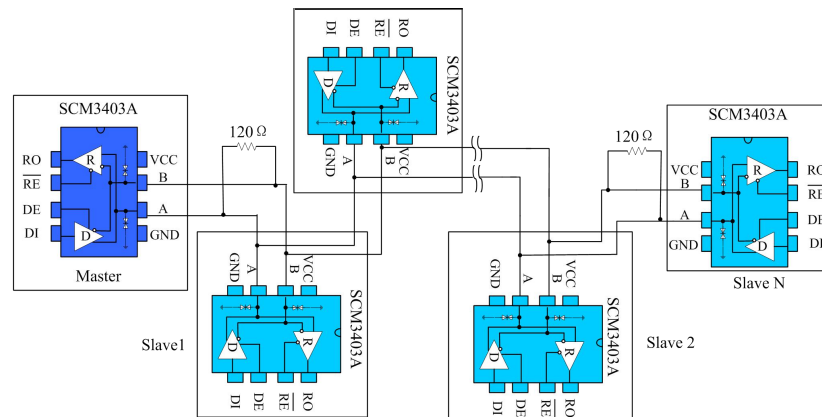

Figure 11. Hand in hand type RS485 half-duplex telecommunication network
2. Hand-in-hand networking: Also known as daisy chain topology, it is the standard and specification of RS485 bus wiring, and is the recommended RS485 bus topology for organizations such as TIA. The wiring mode is that the main control device forms a hand-in-hand connection with a plurality of slave devices, as shown in Figure 11, the branch is not left. This wiring method has the advantages of small signal reflection and high communication success rate.